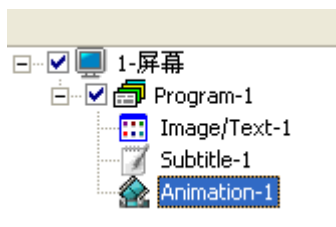

figure 3-18
- ◆ Animation  :click animation button, add new animation area in the current screen, as shown in figure 3-18,set the animation attributes as your require. More details about animation attributes setting ,please check in “4.4 animation attributes”